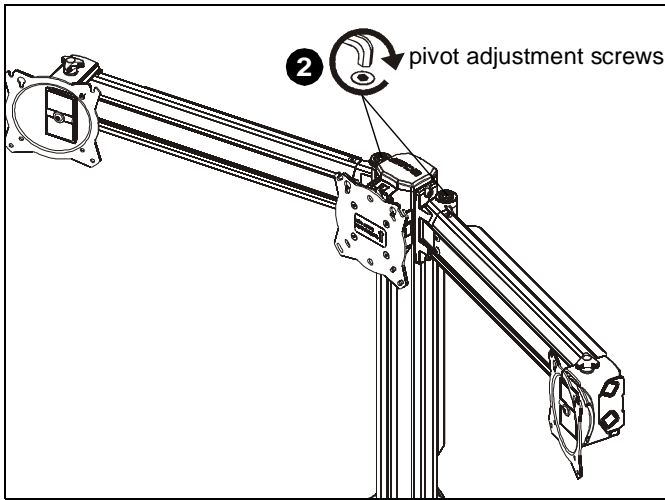

Figure 15
- When arms are at desired pivot position, lock pivot position by tightening pivot adjustment screws using 5/16" hex key (N). (See Figure 15)